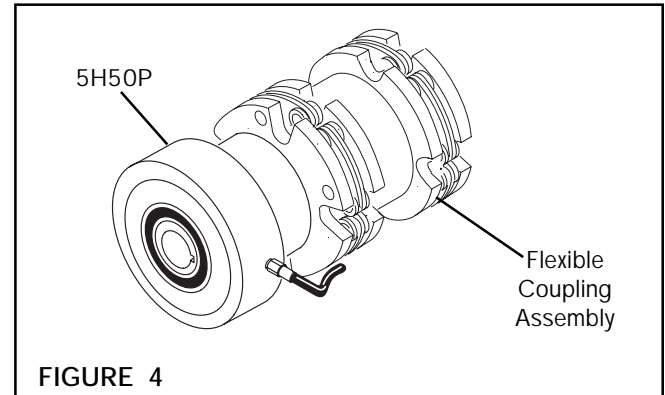

FIGURE 4
1. Remove Flexible Coupling Assembly from Clutch (See Figure 4).